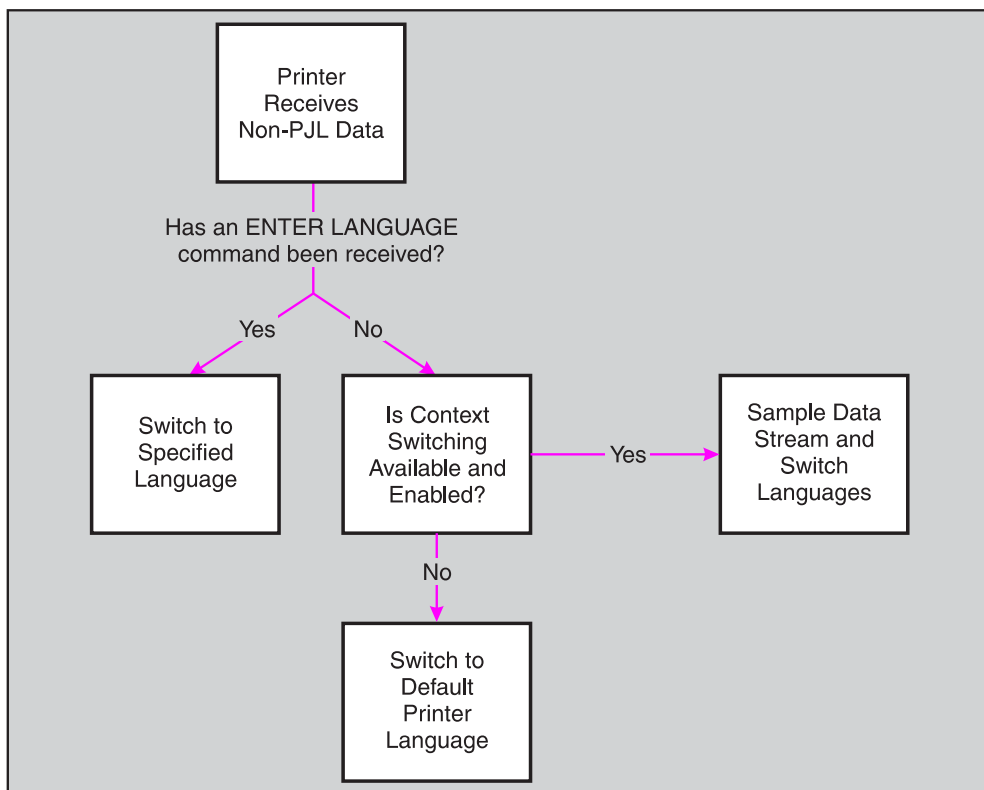

Figure 4-1 Switching Printer Languages
- **Explicit Switching.** With explicit switching, the ENTER LANGUAGE command is used to “explicitly” select the desired printer language. This is the preferred switching method because it ensures that the specified printer language is always selected (see Figure 4-1).